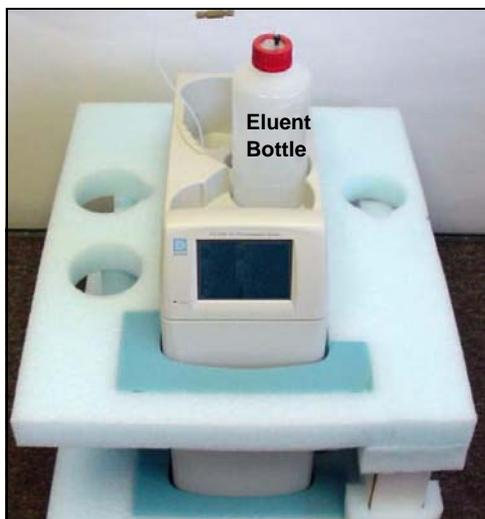

Figure B-2. ICS-1500 with Eluent Bottle
2. Set the eluent bottle on top of the ICS-1500 (see Figure B-2).